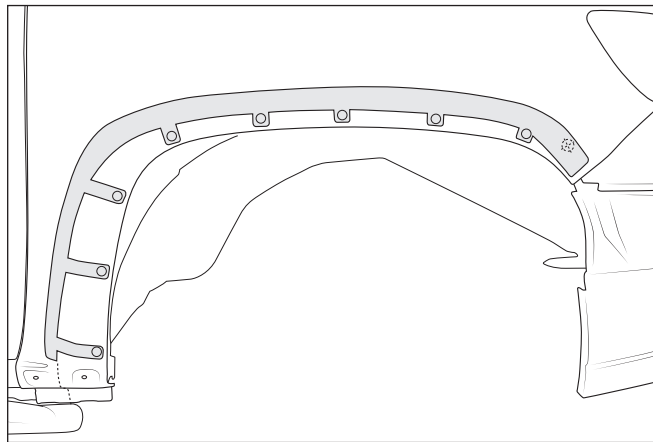

Figure 1
3. Adhere templates to vehicle with painter's tape or the plastic clips from the factory flare, align the factory holes with the templates (fig. 1).